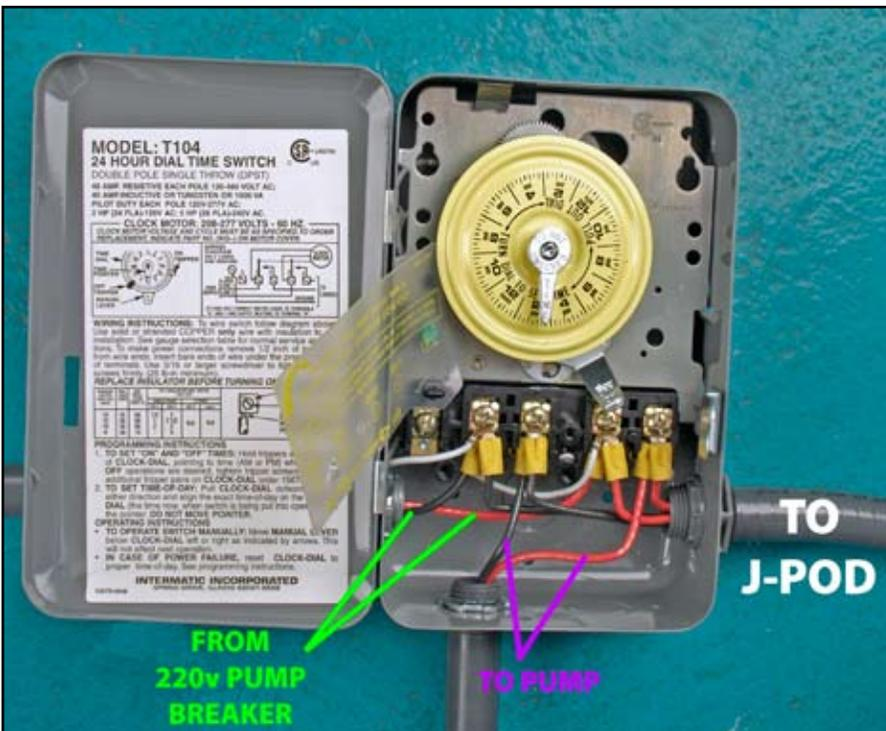

FIGURE 1 J-POD POWER WIRING CONNECTIONS
**WIRE J-POD to TIME-CLOCK** - Your time clock may vary but the clock contacts will open or close two sets of terminals, there will be two LINE and two LOAD TERMINALS. Connect the RED wires from the J-POD across the RIGHT set of contacts and the BLACK across the LEFT. SEE FIGURE 1.
LOOSEN THE TIME-CLOCK SCREW TERMINALS numbered 1 THRU 4 . Connect the FOUR wires from the J-POD to the FOUR screw down terminals as shown in FIGURE 1.